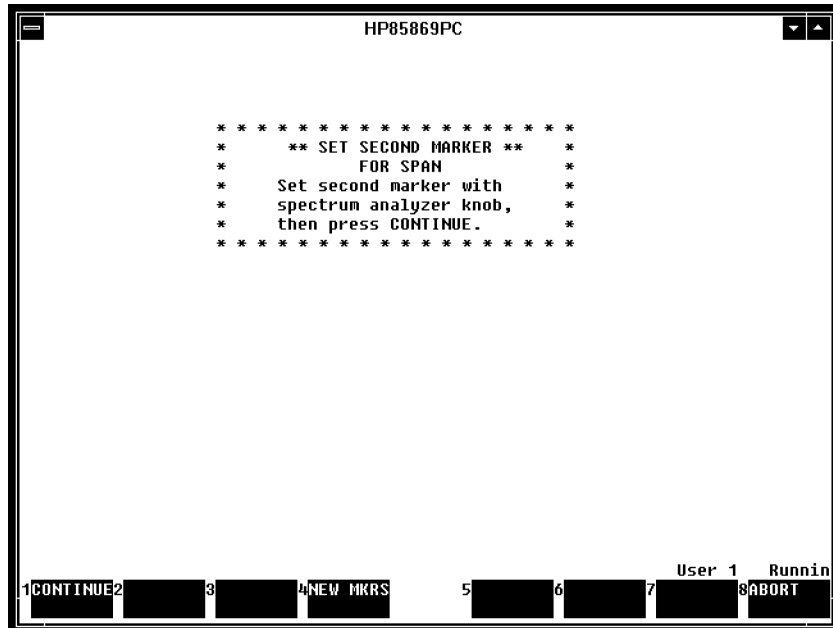

Figure 7-19. Setting Second Marker for ReMeasure - Over Span
5. After setting the first marker on the spectrum analyzer display, a second prompt (similar to Figure 7-19) on the computer display asks you to set another marker. Again, use the spectrum analyzer's DATA RPG knob to place a marker somewhere on the display, in the same frequency range, and press CONTINUE on the computer keyboard. This marker sets the second end of the range that you are analyzing. For faster results, indicate the smallest range possible.